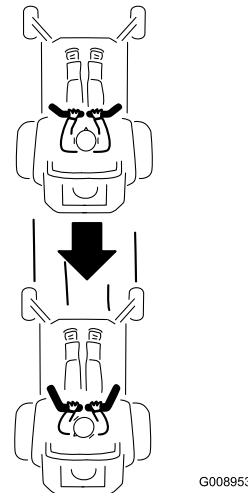

Figure 18
2. To go backward, look behind you and down, as you slowly pull the motion-control levers rearward (Figure 18).
To go straight, apply equal pressure to both motion-control levers (Figure 18).